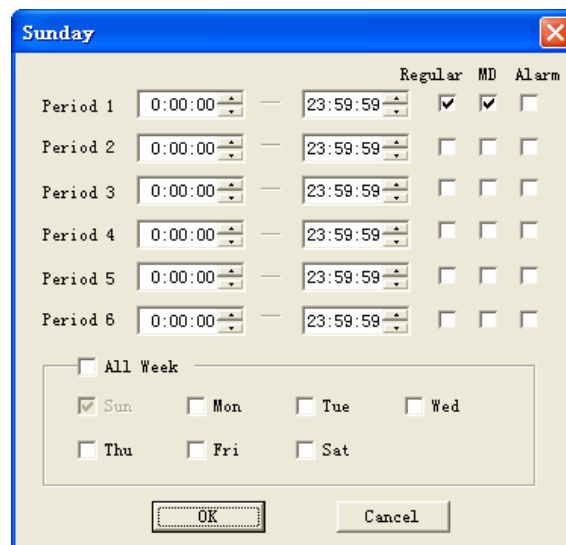

Figure 7-28
- ✧ Period: There are six periods for you to set. Please click set button of the corresponding period. See Figure 7-28.Please note all the setup here shall be in one day. E.g. 00.00 to 24.00.